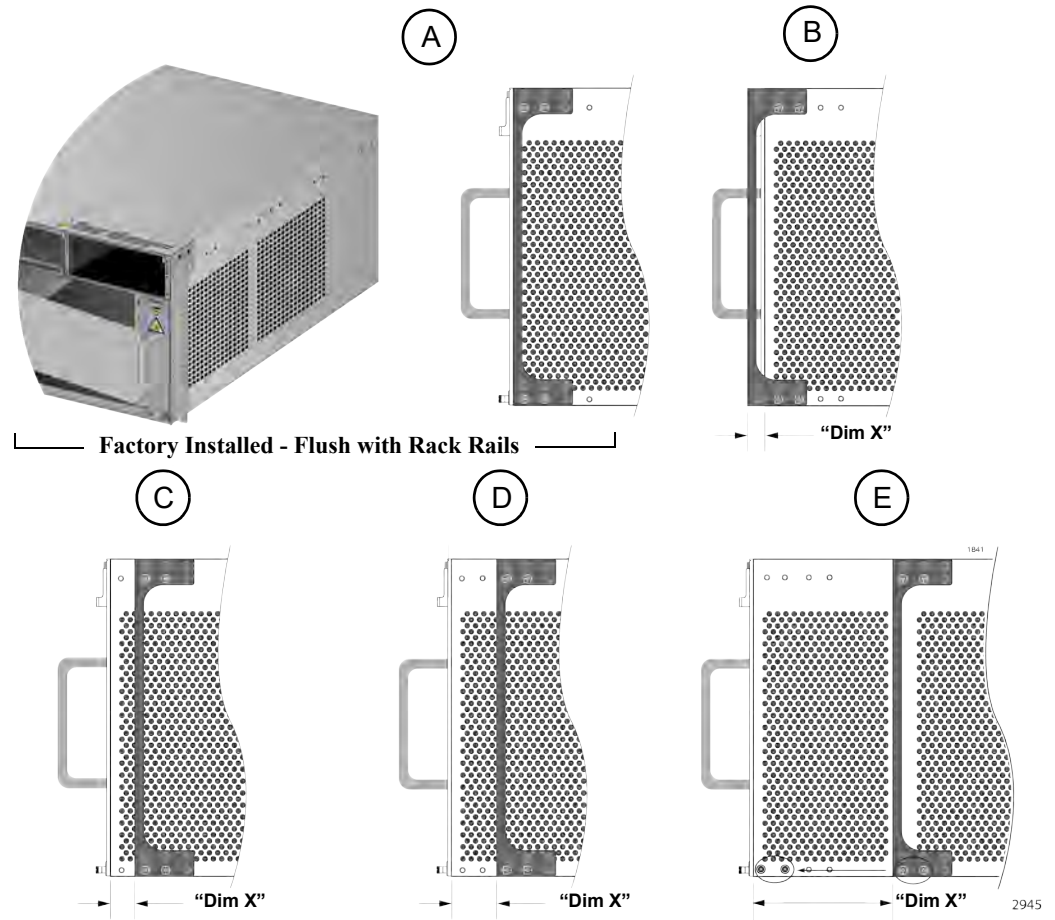
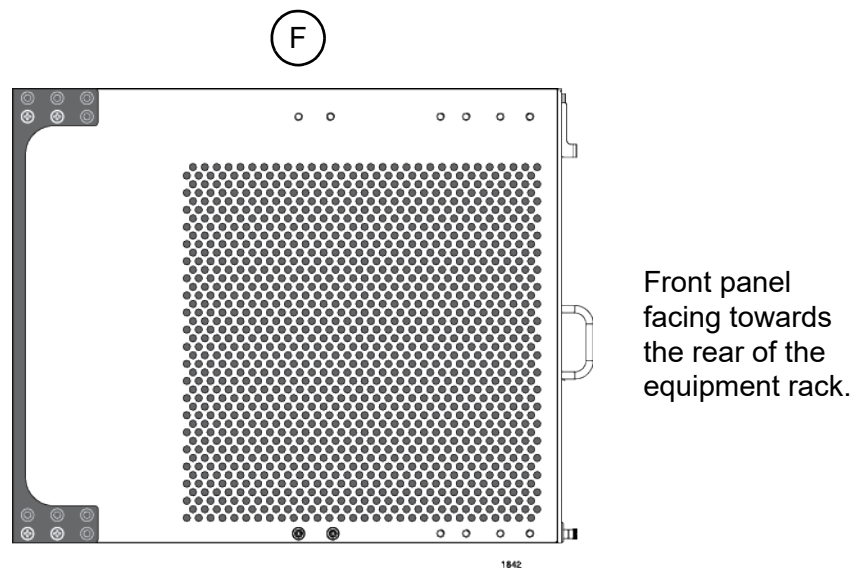

Figure 43. Rack Mounting Bracket Locations
Figure 44. Rack Bracket Locations for Reverse Position of Chassis
You adjust the brackets by removing them and re-installing them in different positions on the sides of the chassis. The bracket positions are listed in Table 28 and illustrated in Figure 43 on page 117 and Figure 44 on page 117. Please review the following information before moving the brackets:
- ☐ To install the rack mount brackets in position “E,” you have to remove the two chassis screws from the bottom-middle section of the chassis and re-install them in front where the rack mount bracket screws were originally, as shown in Figure 43 on page 117.
- ☐ The dimension (X) between the front panel and the rack rails is given for each rack mounting bracket position in Table 28.